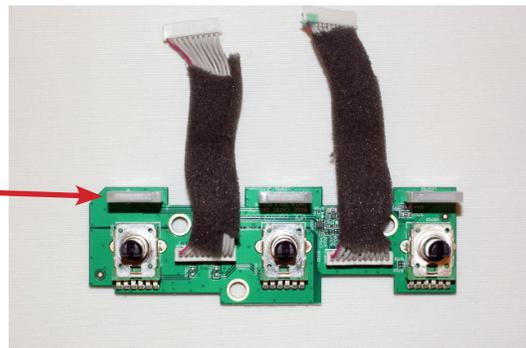

Figure 24
8.3 Figure 24 shows the volume control board assy and the two wire harnesses removed from the I/O panel.
9.3 Figure 24 shows the main PCB and the eight pins which need to be unsoldered to remove the Micro USB.